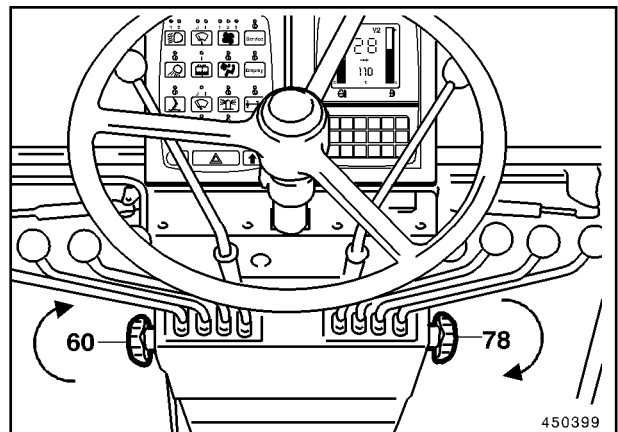

Fig. 13
- Disable all working equipment functions by turning locking knobs (60 and 78, Fig. 13) in opposite direction. Check that the control levers are locked in position.